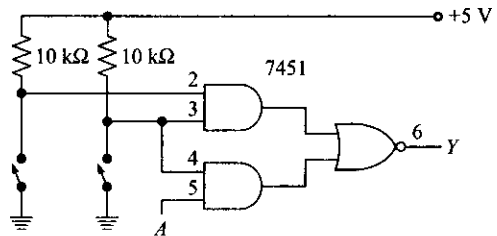

Fig. 14.50
14.20 Is the output Y of Fig. 14.50 low or high for these conditions?